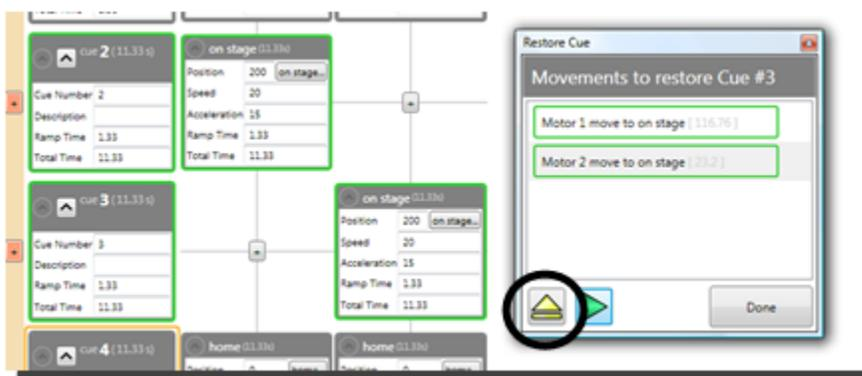

Figure 344
3. To start moving motors back into their correct positions, select a single movement from the list and then press the **Load Movement** button in the **Restore Cue** window (Figure 344). Load and run the movements one by one.